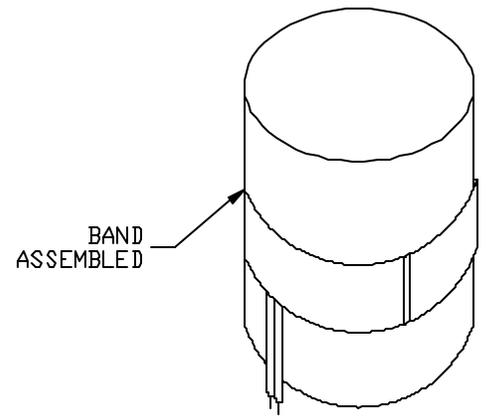

Figure 3
3. Carefully remove the protective backing from the longer adhesive area of the band. Wrap the band tightly around the heater and cylinder; overlap the long adhesive end as much as necessary. See Figure 3. Firmly press adhesive areas of the band to ensure that they bond properly.